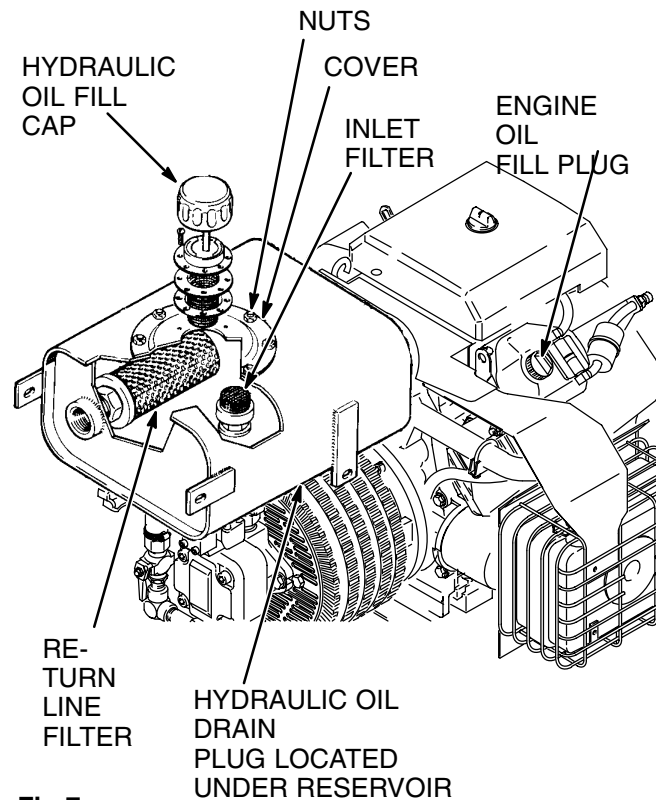

Fig 7
- b. Place a waste container under the drain plug of the hydraulic reservoir. See Fig 7. Unscrew the plug and drain the reservoir. Reinstall the plug before proceeding.
- f. Install the reservoir cover and nuts. Then pour in five gallons (19 liters) of Graco Hydraulic Oil through the intake filter. See Fig 7. Install the fill cap.